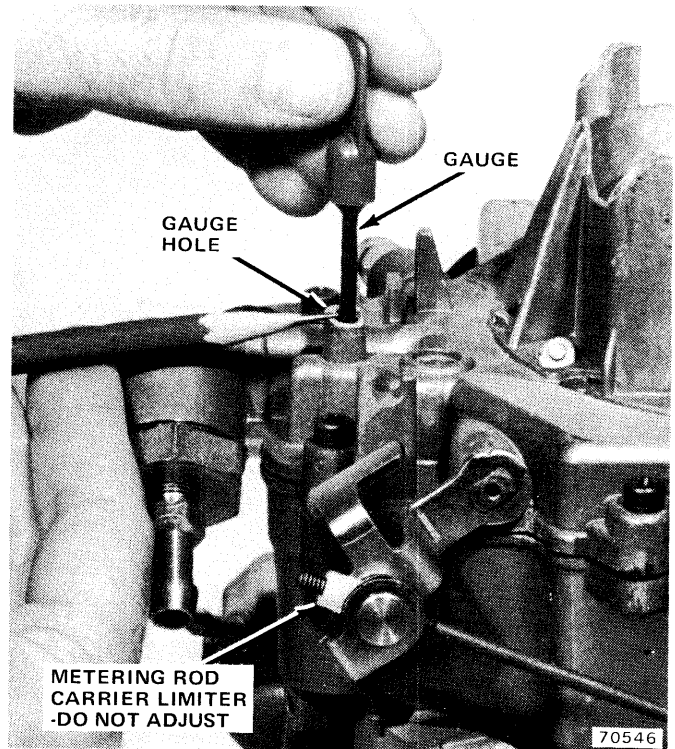
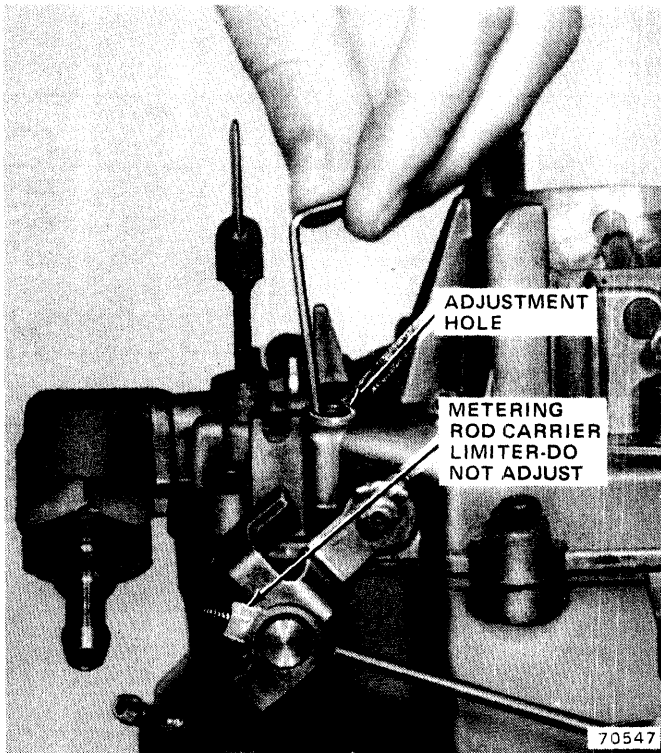

Fig. 4-140 Gauging Accelerator Pump Stroke
Fig. 4-141 Adjusting Accelerator Pump Stroke
(3) Stop engine. Remove plug from accelerator pump gauge hole (fig. 4-140).
(4) With throttle at idle setting established previously, insert any suitable tool into gauge hole until it rests on pump lever.
(5) Scribe mark on gauge flush with top of gauge hole boss (fig. 4-140).
(6) Move throttle to wide-open position. Gauge will move down into gauge hole. Make second mark on gauge flush with top of gauge hole boss.
(7) Return throttle to idle position and remove gauge. Measure distance between scribe marks. Correct distance is 0.310 inch.
(8) If pump stroke is incorrect, remove plug from adjustment hole (fig. 4-141).
(9) Using 5/64 inch Allen wrench, turn adjusting screw clockwise to increase stroke or counterclockwise to decrease stroke.